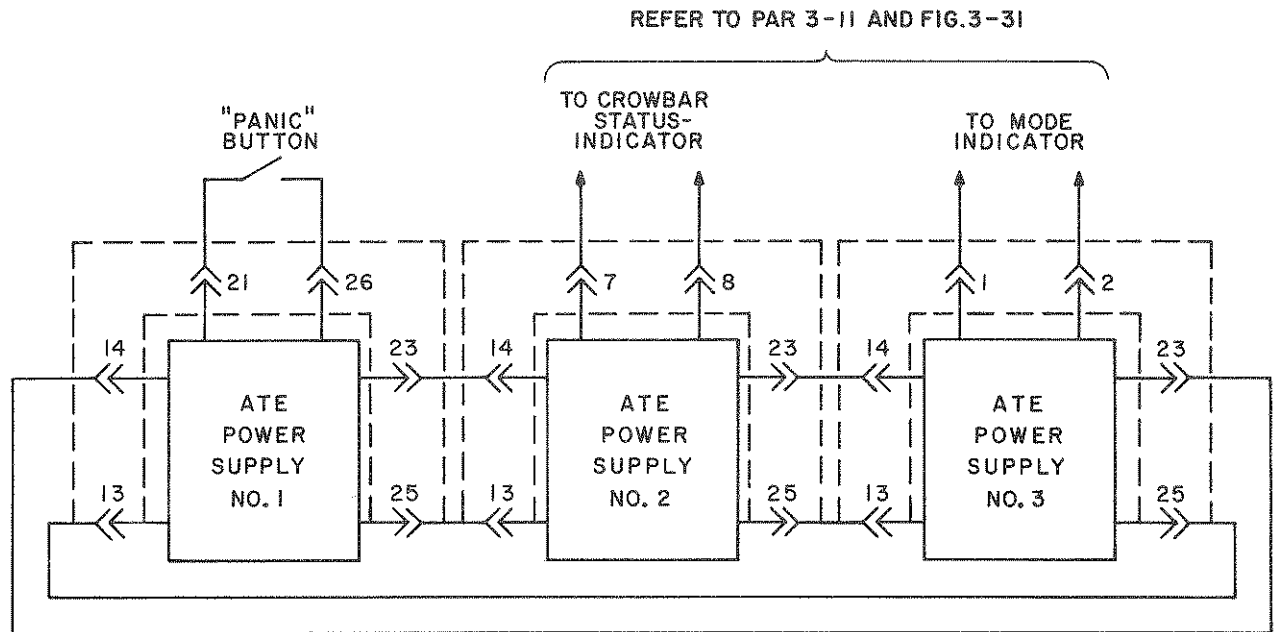

FIG. 3-19 MULTIPLE POWER SUPPLY FAULT DETECTION LOOP
- 3-92 In applications where several power supplies are used it is often necessary to shut down *all* power supplies if a malfunction on a *single* supply forces its shut-down. Sometimes, a "PANIC BUTTON" arrangement is desired, where *all* system power supplies can be shut-down with a single manual switch or a common signal from a controller. ATE power supplies are ideally suited for multi-unit operation since all necessary crowbar control circuit connections are terminated at the rear PROGRAMMING CONNECTOR (PC-12). The crowbar control connections in a multi-unit application can be externally wired to form a closed loop fault-detection circuit as shown in FIG. 3-19. Although only three ATE power supplies are shown, the control loop may be extended to include as many ATE power supplies as are required.
3-93 In addition to the crowbar terminals, optically isolated flag signals are available at the PROGRAMMING CONNECTOR (PC-12) of each ATE power supply. These signals may be used to indicate the crowbar status and the operating mode of each ATE power supply (See FIG. 3-19).